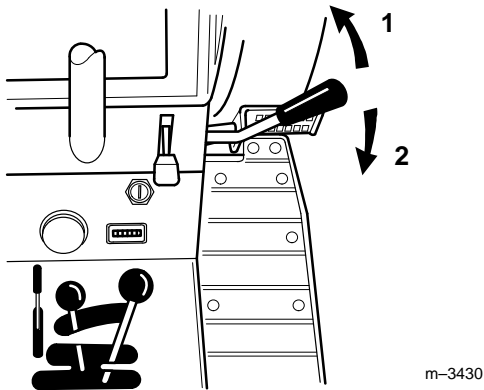

Figure 19
2. Push the power take off (PTO) lever forward to engage (Fig. 19).
2. Pull the power take off (PTO) lever back to disengage (Fig. 19).